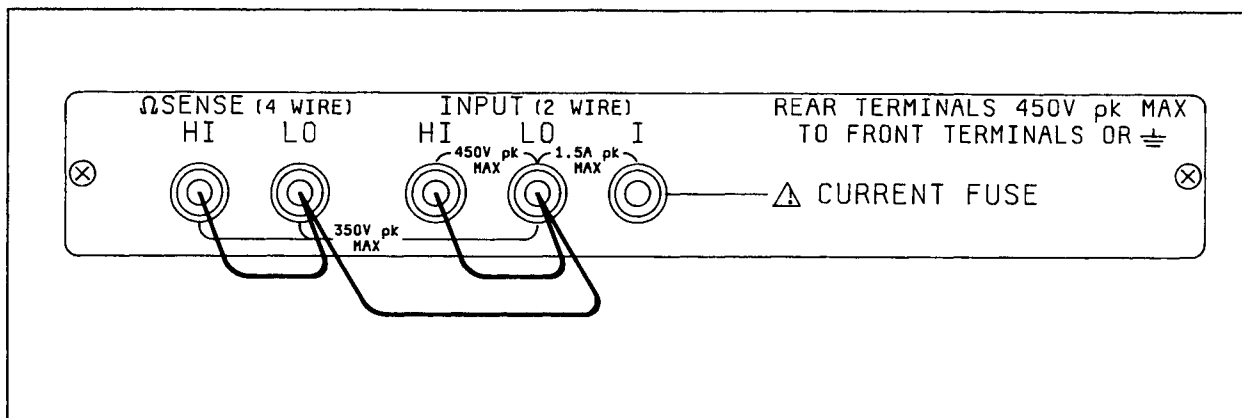

Figure 4-9. Standard Instrument Rear Input Performance Test Connections
1. Short the Rear Input HI and LO terminals and the  $\Omega$  Sense HI and LO terminals as shown in Figure 4-9.